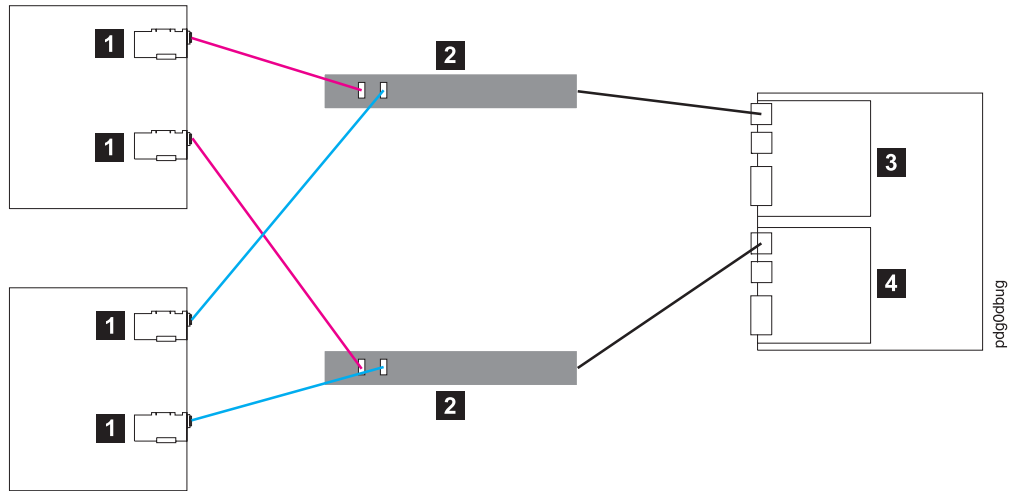

Figure 28. Passive controller B
1. One controller is passive. In the example shown in Figure 28, controller B (4) is passive.
Table 13. Description of Figure 28